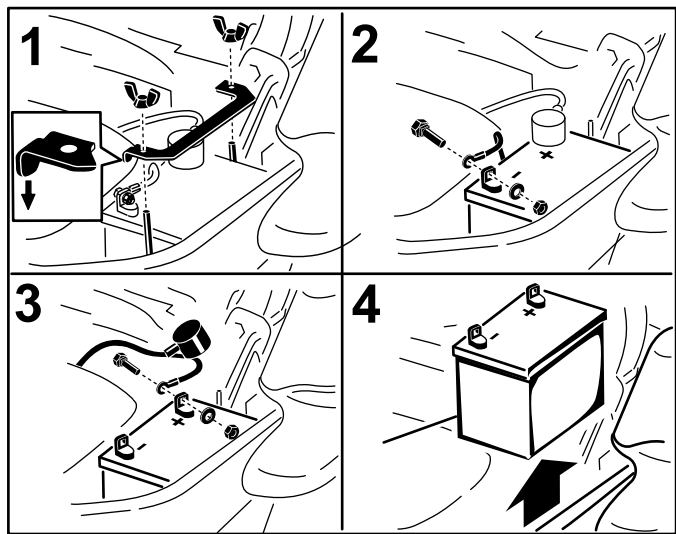

Figure 54
3. Disconnect the negative battery cable (black) from the negative (-) battery terminal (Figure 54).
4. Slide the red terminal boot off the positive (+) battery terminal and remove the positive (red) battery cable (Figure 54).
5. Remove the wing nut securing the battery clamp (Figure 54).
6. Remove the clamp (Figure 54).
7. Remove the battery (Figure 54).
1. Position battery in the tray with the terminal posts opposite from the hydraulic tank (Figure 54).
4. Secure the cables with 2 bolts, 2 washers, and 2 locknuts (Figure 54).
6. Install the clamp and secure it with the wing nut (Figure 54).